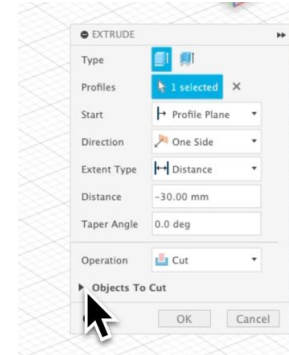

Figure 1.2
- After finishing a sketch, select a profile, apply dimension (e.g., 5 mm), and choose '**Join**' (see Figure 1.2) The new feature merges seamlessly with the original body.